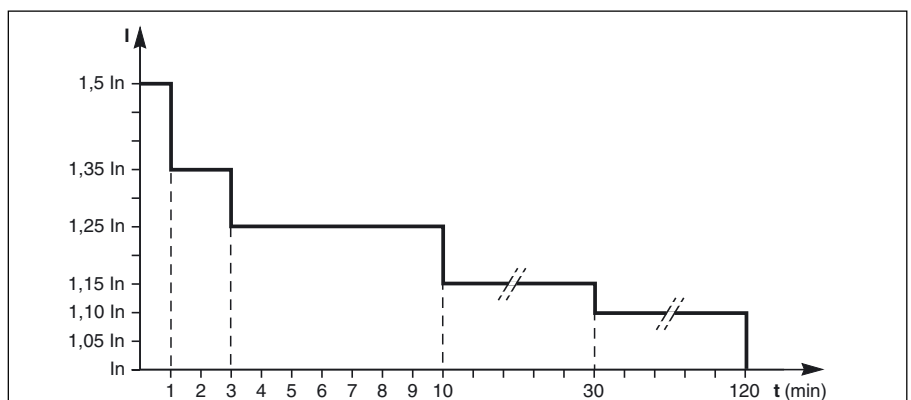

Fig. 14
▶ in the event of a small but extended overload (i.e. a continuous level of power exceeding the full rated load), the inverter will continue to supply power for a period depending on the magnitude of the overload (10 minutes for a 125% overload, 1 minute for a 150% overload). See the overload curve in figure 14;
- ▷ light (4) goes off,
- ▷ light (3) shines green,
- ▶ if the overload is less than $1.65 I_n$, the remaining inverters support the overload (see curve in figure 14), and the load is transferred to the bypass AC source;
- ▷ the light (4) goes off,
- ▷ the light (3) goes on and turns green,